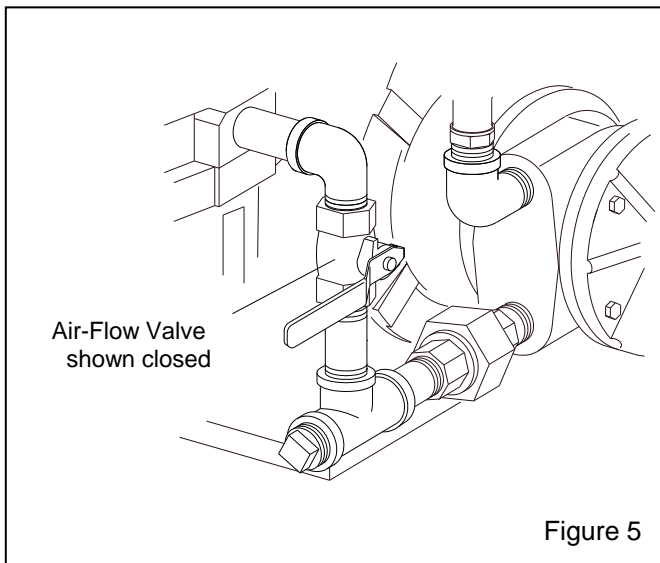

Figure 5
4.2.2 Set the pressure only with the respirators connected. Begin with the valve closed. Closed is when the handle is perpendicular to the valve as shown in Figure 5. Slowly open the valve until the outlet pressure as shown on the manifold gauge is within the respirator's approved pressure range. The respirators approved pressure range may be found in the respirator's instruction manual.